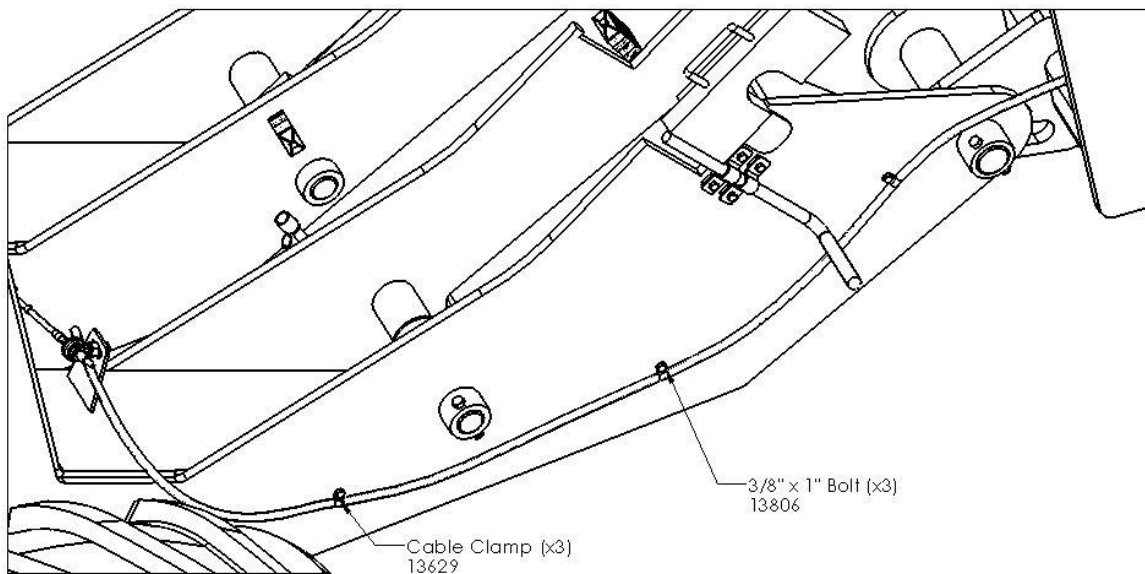

Figure 16 - Angle cable assembly
- a) Run the hydraulic hoses. See Section 3.3 figure 16 for hydraulic schematic, in the hydraulic assembly section.